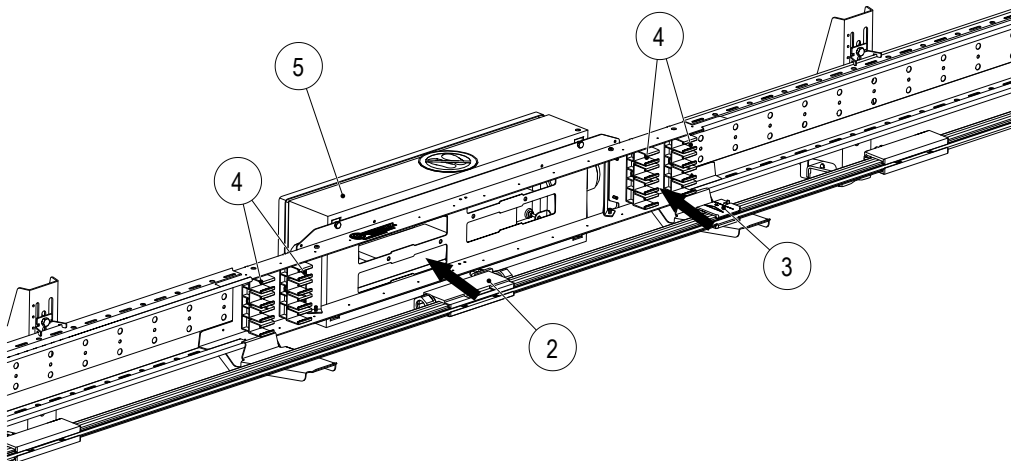
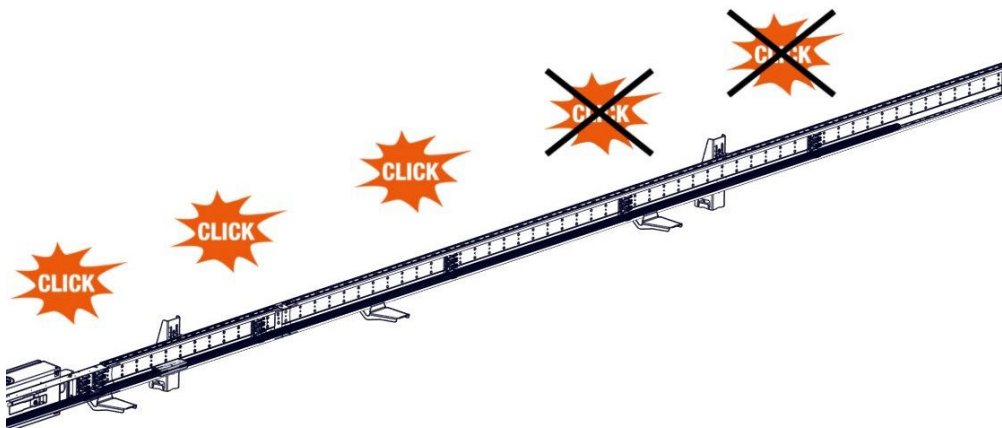

Fig. 30: Install the conductor rail with line feed (2) and anchor point (3) on terminal box (5)
Fig. 31: Do not attach last hanger clamps to additional conductor rails
4. Hang the connected conductor rails on the hanger clamps in such a way that the installed line feed (2) fits on the terminal box recess and the anchor point (3) is positioned between its hanger clamps (4) (see Fig. 30). Observe the PE position of the conductor rail (Conductix-Wampfler recommends attaching the PE rail as the last or lower pole (viewed from above)). Hang the additional conductor rails on the hanger clamps. For better handling, do not yet hang the additional conductor rails on the last two hanger clamps (see Fig. 31).